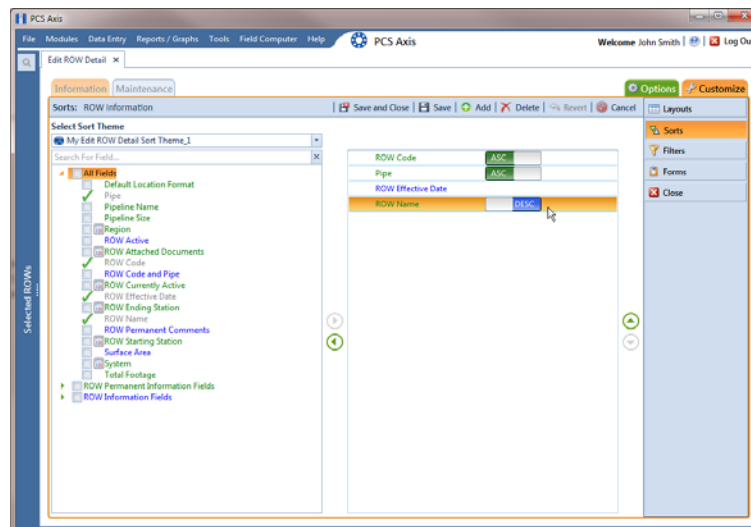

Figure 3-27. Sorts
- 8 Click  **OK** to save changes and return to the *Sorts* page (Figure 3-27, page 114).